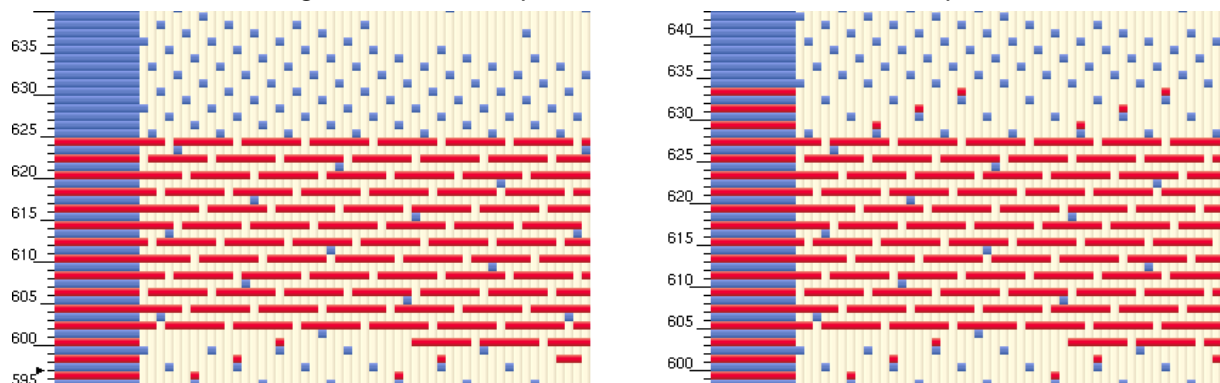

Figure 277: Protect function in extra wefts
12.Protect: sometimes it is necessary to continue with a few extra threads, even if they are not needed in the motif formation; they just hold the last threads in the design firmly in their place. Figure 277 shows the same design, made without protection threads, and with three protection threads.